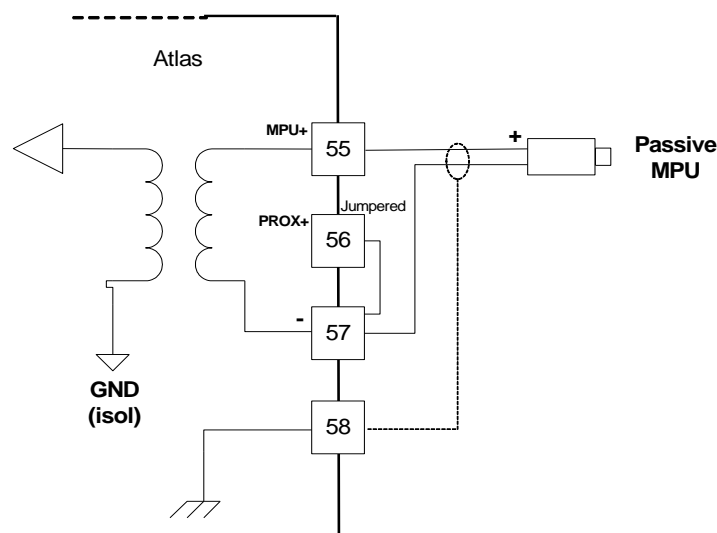

Figure 4-9. Wiring Example—MPU Interface to the SmartCore Board
- Refer to Figures 4-9 and 4-10 for speed sensor wiring.